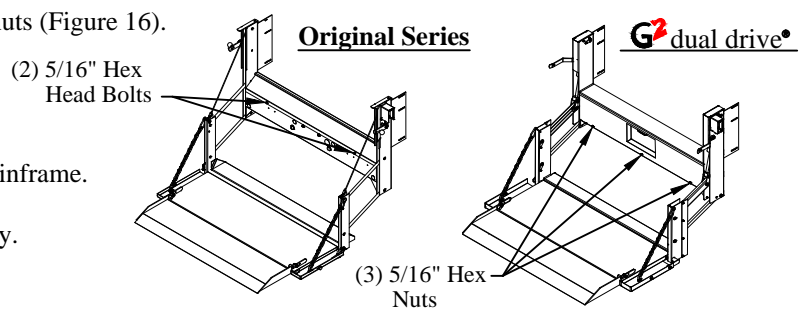

Figure 16: Box cover locations.
1. **Remove** the box cover by removing the 5/16" hex head nuts (Figure 16).
1. **Remove** the box cover by removing the 5/16" hex head bolts (Figure 16).